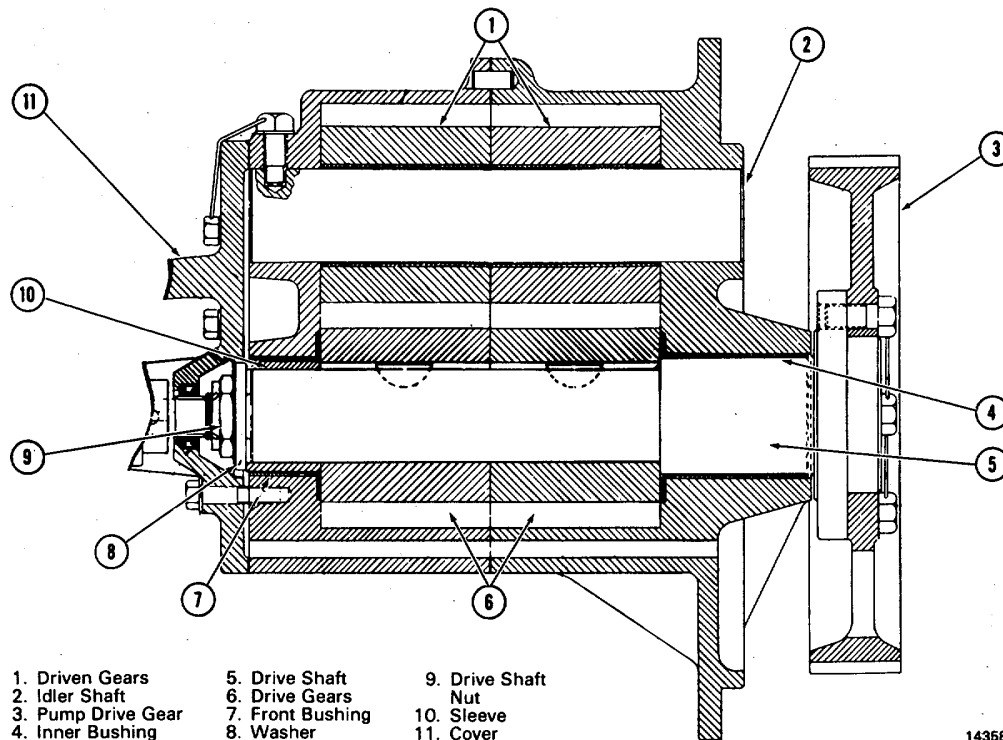

Fig. 9-17 - Scavenging Oil Pump, Cross-Section
4. Remove the long bolts, Fig. 9-17, holding the pump bodies together.
1. Place the cleaned and inspected rear body, Fig. 9-17, in the vise with the drive shaft bore facing up.